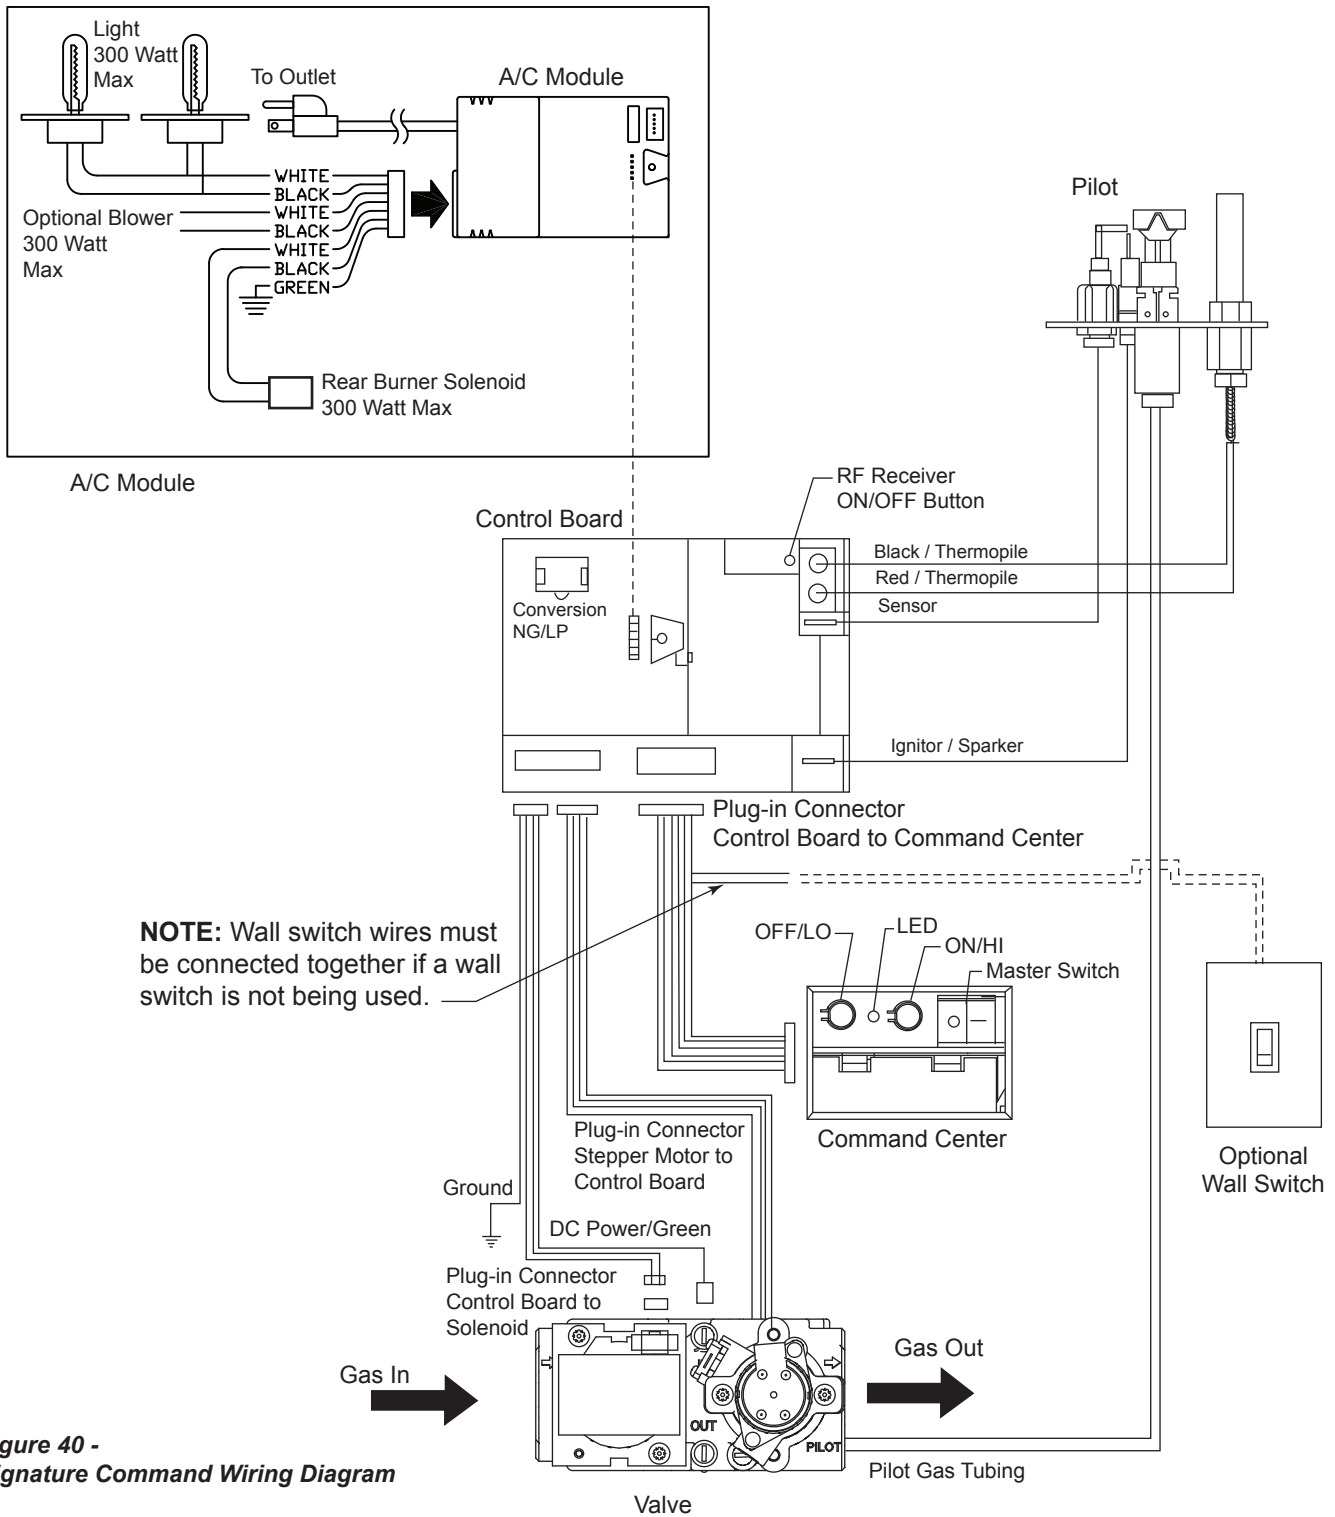

Figure 40 - Signature Command Wiring Diagram
The wall switch wire connection is located off the 2 ft. wire harness from the control box to the command center. *Figure 40*. The connection is labeled "Wall Switch". Unplug the male and female connectors and connect the two (2) low voltage wires provided. Run wire to desired location on wall. Up to 50 ft. of 18 ga. wire may be used if necessary. Attach wires to wall switch. Mount the wall switch in to junction box and screw on cover.